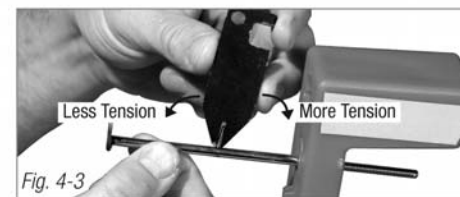

Fig. 4-3
- a. If you want a heavier release for use with large minnows, take the tool and bend the trigger post toward the reel until you are satisfied the bait you're going to use won't trip the unit. The fish will still be able to trip the unit easily. (Fig. 4-3).
- a. If you want to fish bluegills, perch and crappies you would want a very light release for the fish. Take the tool and bend the post so the fishing rod will stay engaged, and let the fish release the fishing rod easily. To do this take the tool and bend the post away from the reel in small increments until you are satisfied with the way it releases. (Fig. 4-3).